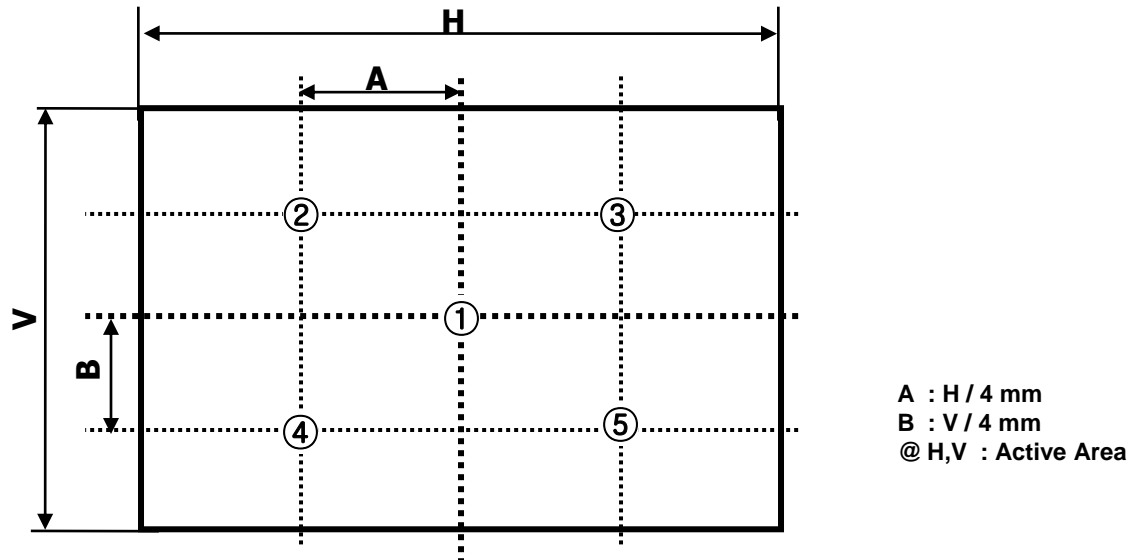

FIG. 2 Points for Contrast Ratio Measure
n = the Position number(1, 2, 3, 4, 5). For more information, see FIG 2.
- (1) Temperature : 5 ~ 40 °C
- (2) Humidity : 35 ~ 75 %RH
- (3) Period : 6 months
- (4) Control of ventilation and temperature is necessary.
- (5) Please make sure to protect the product from strong light exposure, water or moisture. Be careful for condensation.
- (6) Please keep the modules at a circumstance shown below Fig. 2
< Fig. 2 >